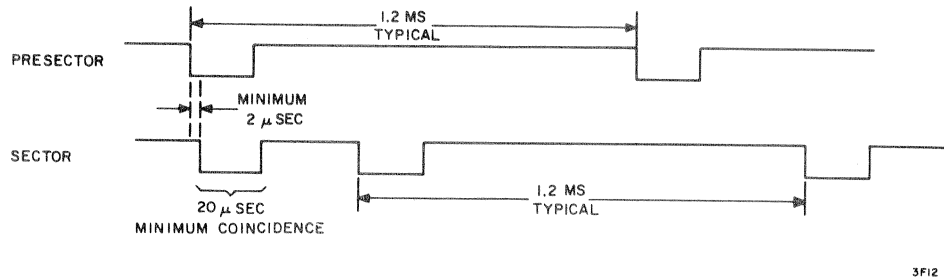

Figure 6-11. Sector/Presector Pulse Timing
23. Connect the oscilloscope probe to B14A (presector) and B14C (sector). The oscilloscope traces should meet the requirements of Figure 6-11.